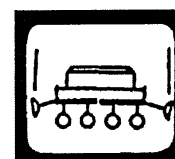

fig.15
4.5 De toets "markeurs" (fig.15)